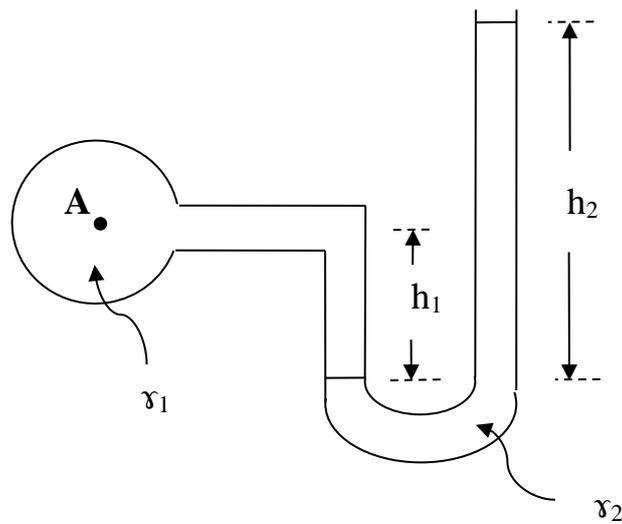

Fig.2
2. **Simple manometer:** Since the piezometric tube is not suitable for measuring the high pressures of liquids, the simple manometer is a suitable way to do this task. The manometer consists of a U-shaped tube, as shown in Fig. 2, which contains a fluid of weight. During measurement, the end of the manometer tube is connected to the tube or vessel containing the liquid or gas to be measured where we can find the pressure value from the displacement calculation obtained in the manometer.